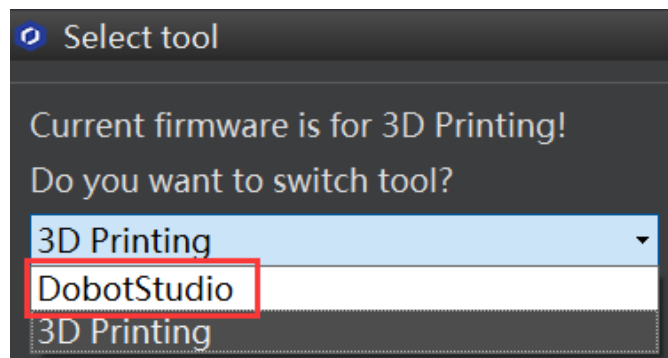

Figure 5.86 Select the DobotStudio to upgrade the Dobot firmware
1. Select **DobotStudio** to upgrade the Dobot firmware, as shown in Figure 5.86. The **Question** dialog box is displayed.